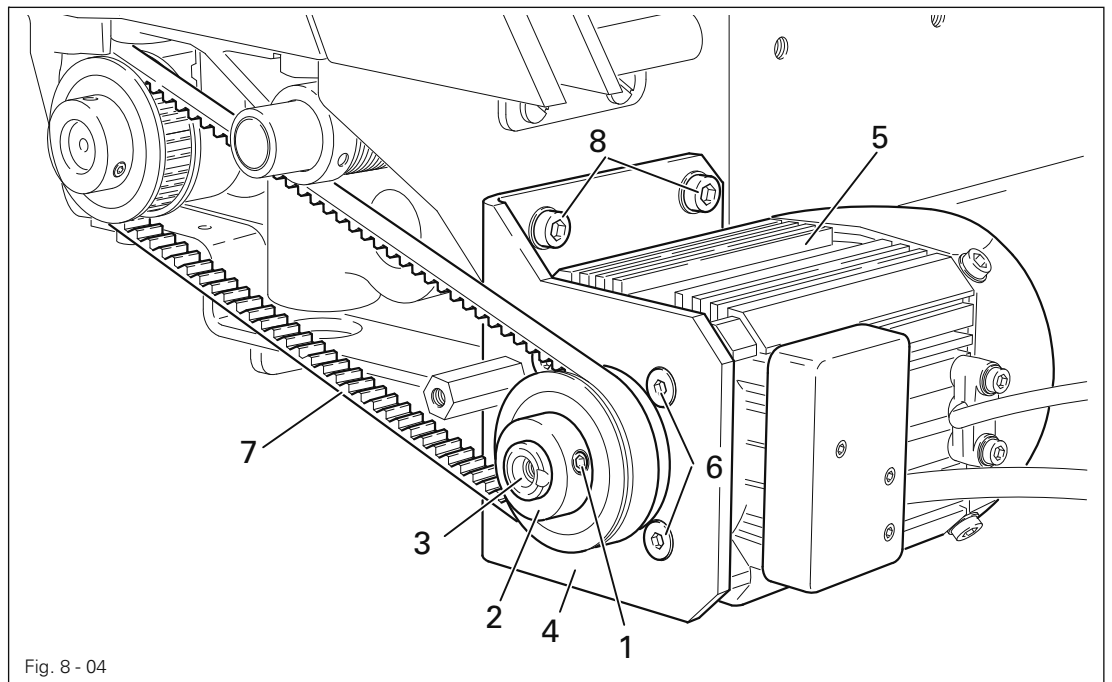

Fig. 8 - 04
- Fit the reel stand as shown in Fig. 8 - 03.